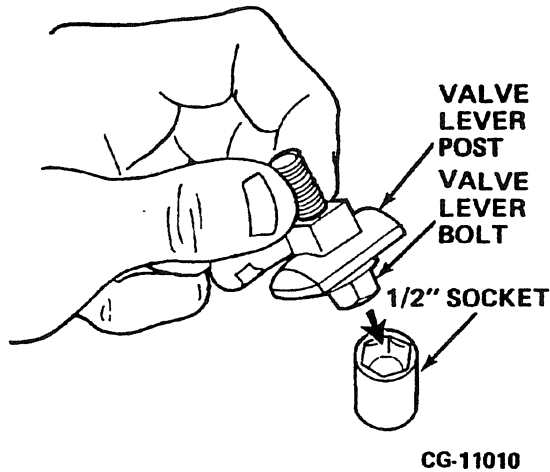

Figure 3.9. Valve Lever Reassembly
- a. Place the valve lever post onto the valve lever bolts, then insert the bolt head into a 1/2 in. socket, Figure 3.9. The bolt will align the post in the valve lever while the socket acts as a holding fixture.
d. Repeat steps a through c for the second valve lever and post on the assembly. Refer to Figures 3.9 – 3.11. Set aside the bolt and 1/2 in. socket.